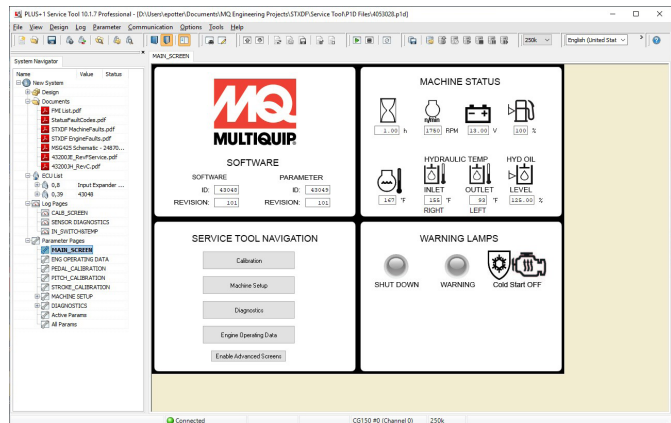
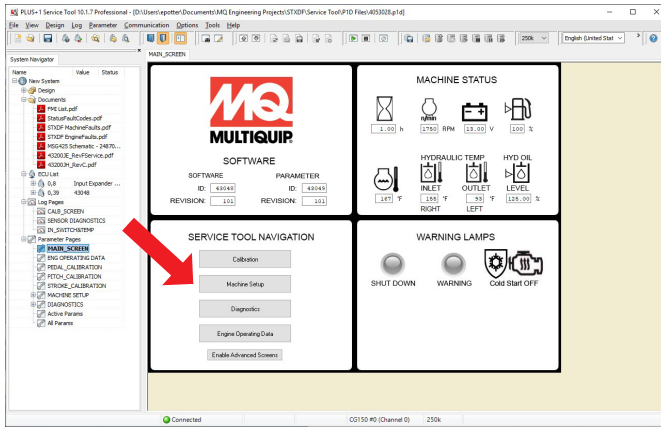

Figure 23. Service Tool Main Screen
Figure 24. Machine Setup Screen
6. On the Service Tool software on your laptop, the main screen should show Software info loaded from trowel MCU and the Machine Status box shows lamps lit (Figure 23).
4. On the service tool main screen (Figure 23), click "Machine Setup" button (Figure 24).